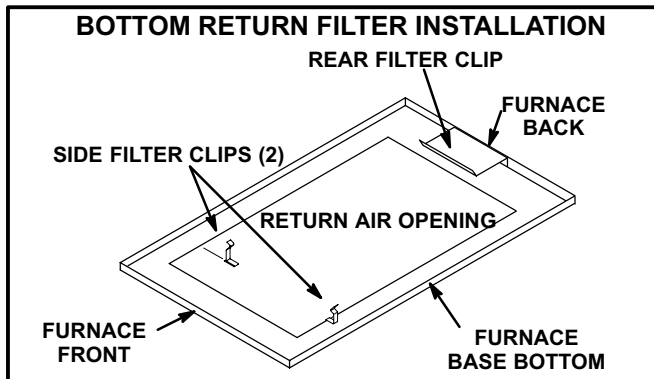

Figure 4
Bottom Return Air Filter Installation (Figure 4)
- 3 - Remove filter by pressing side filter clips and pulling filter up and out. See figure 4.